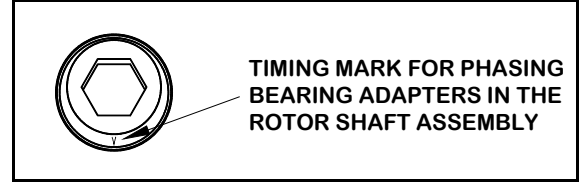

Figure 13. Timing Mark
1. Rotate the adapters in each rotor so the timing marks (see Figure 13) are phased 180 degrees apart with hex bores aligned.